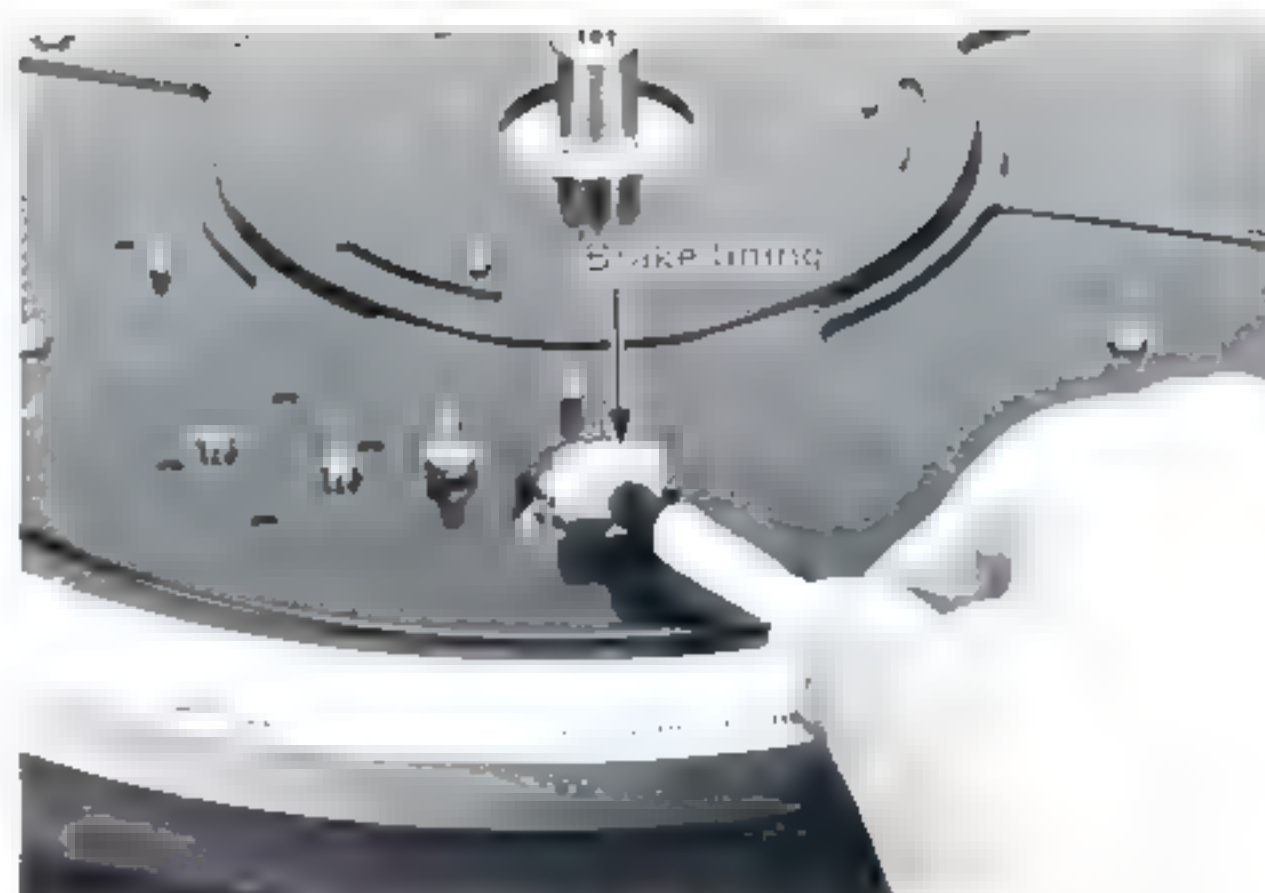

Fig. 13
1. Brush the friction surface of the brake lining, which contacts the platter, with a brush several times. Refer to Fig. 13.